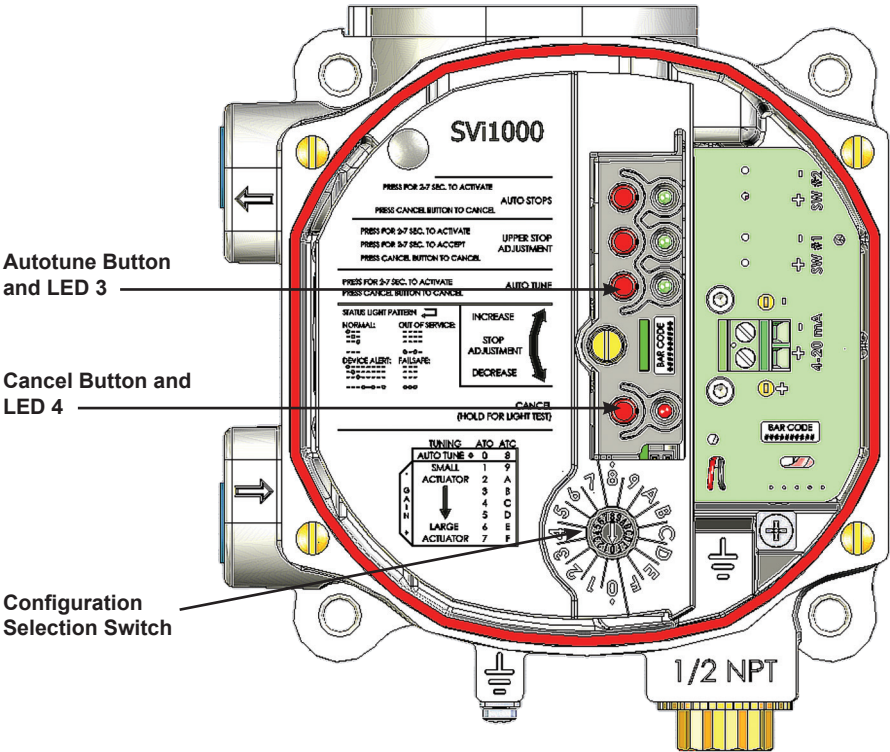

Figure 24 - Configuration Selection Switch
1. Set the Configuration Selector Switch to the auto tuning parameter (Figure 24):